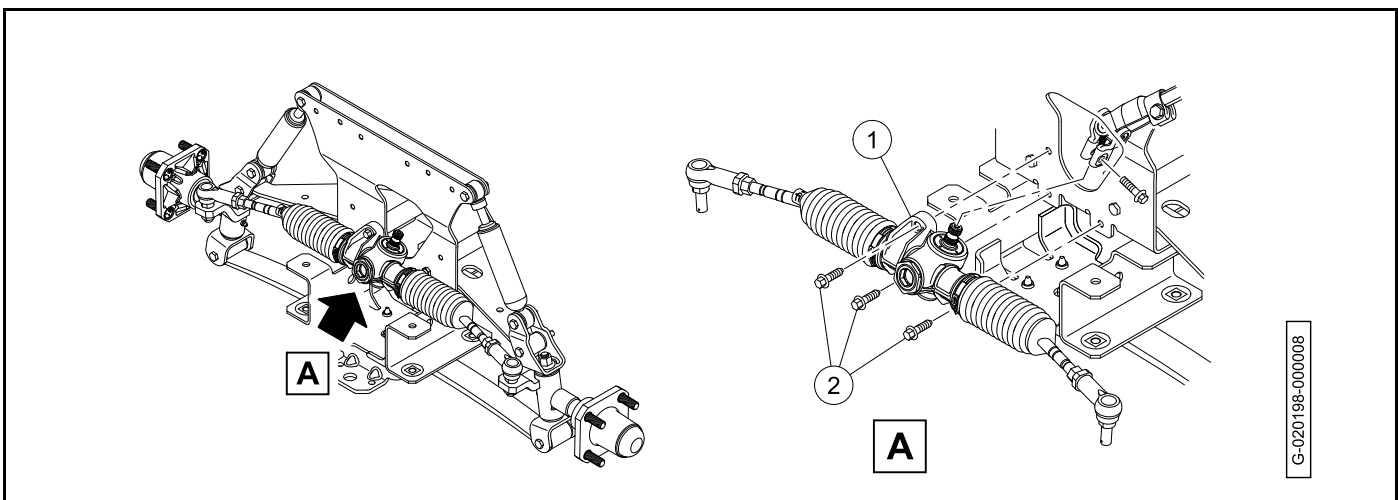

Figure 7-23
3. Move the rack and pinion (1) into position (Figure 7-23).